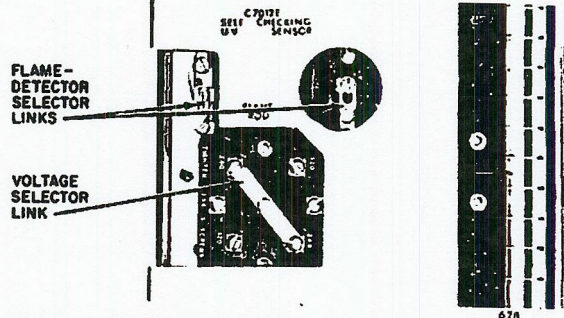

Fig. 3—Voltage-selector and flame-detector links.
2. Refer to Fig. 3 for typical wiring diagram; follow the burner manufacturer's wiring diagrams, if provided.
1. Loosen the center screw. See Fig. 3.
These links are located on the back of the chassis, see Fig. 3. The links should be connected between the upper two of the three screws if a C7012E Ultraviolet Flame Detector is to be used; or between the lower two screws for a rectifying flame-rod detector.